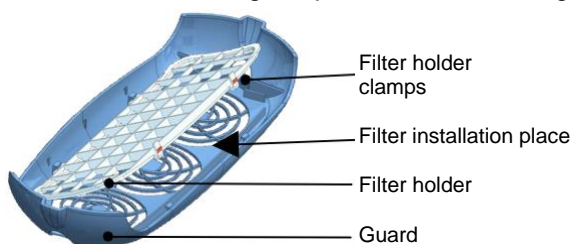

Fig. 11
- Remove filter holder by simultaneously pressing clamps (Fig. 11) and remove old filter, observing the procedure for treating infected materials.
- Install new filter by fixing it by filter holder on recirculator guard (Fig. 11).